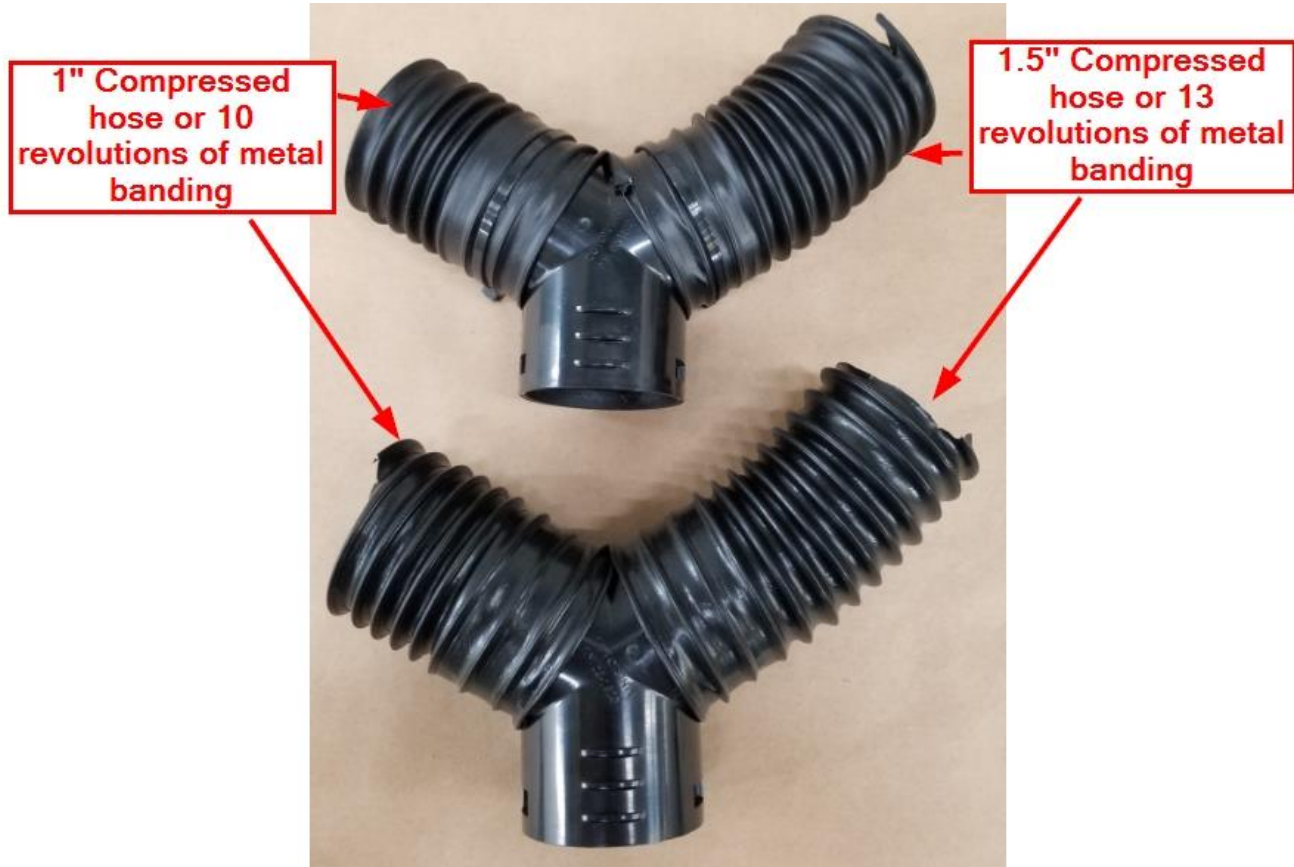

Figure 15
- h. Cut the 2" Duct Hose lengths shown in Figure 15. Assemble the hoses over the 2" Plastic Y's, secure the hoses using the included zip ties.